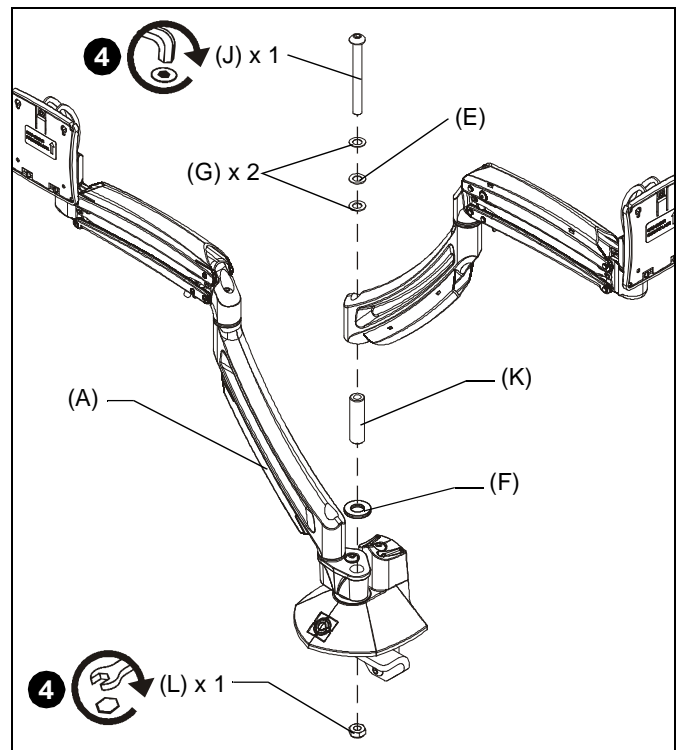

Figure 3
4. Reattach original mount arm (removed in Step 2) using one 5/16-18 x 3" button head cap screw (J), one plastic washer (E), two stainless steel washers (G), one pivot pin (K), one pivot point spacer (F), and one 5/16" lock nut (L). (See Figure 3)